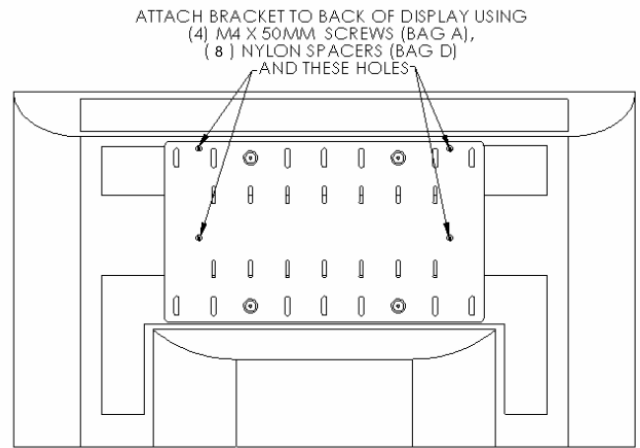

Figure 14. Attach 13.375in. x 4.75in. Pattern
3. Stack 2 spacers per hole, using the hole pattern on the back of your display, as shown in Figure 14:
4. Place MSB-V (10) on spacers and secure using M4 x 50mm screws